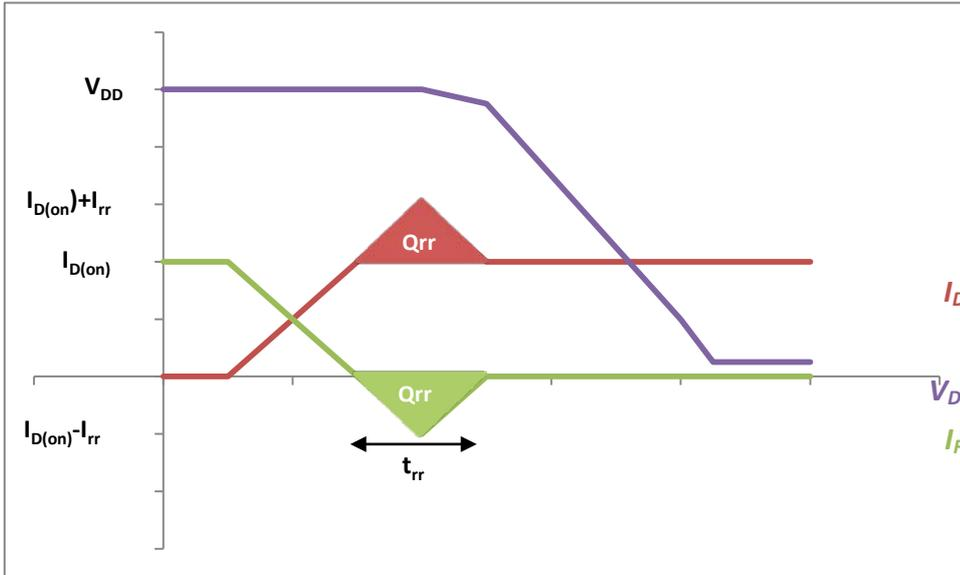

Figure 21 Explanation of Q_{rr} and t_{rr}
- Reverse recovery time: The time needed for the reverse recovery charge to be removed. The graphical explanation of t_{rr} is given in Figure 21.
- Reverse recovery charge: The charge stored in the diode during its on-state. This charge needs to be completely removed immediately following the diode conduction period before the diode's blocking capability resumes as shown in Figure 21. The higher the switching rate of the current (di/dt on the order of $100\text{A}/\mu\text{s}$ or more), the higher the reverse recovery charge. The graphical explanation of Q_{rr} is also given in Figure 21.
Figure 21 demonstrates that during device turn-on, the diode forward current (I_F) drops from the on-state drain current ($I_{D(on)}$) to beneath zero. I_F then recovers back to zero before the drain-source voltage (V_{DS}) starts to decrease (discharging of C_{oss}). Reverse recovery occurs during the time I_F is below zero, and the charge (Q_{rr}) can be approximated using the area between I_F negative and the zero current line.